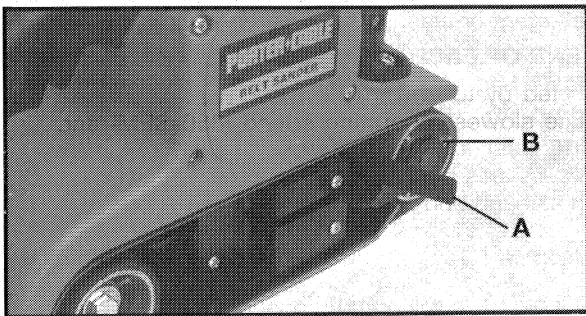

Fig. 1
2. Lay sander on its left side, Fig. 1.
3. Pull lever (A) out and towards front of machine as shown. This retracts idler pulley (B) and releases tension on abrasive belt.